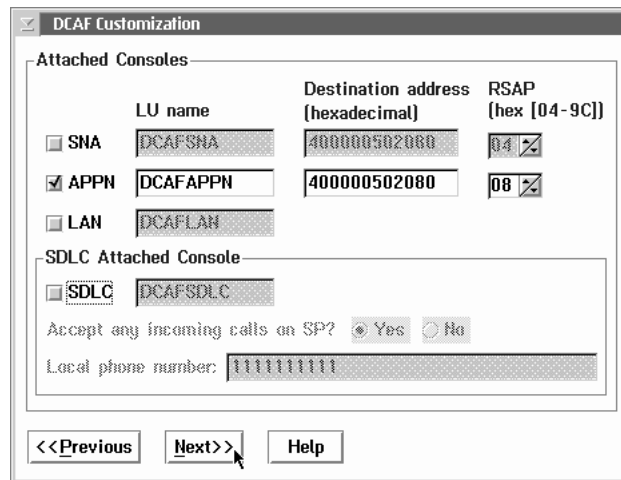

Figure 8-2. DCAF Customization
APPN LU name (Figure 8-2 on page 8-3)	LU name (Step 11 on page 8-7)
APPN Destination address (Figure 8-2 on page 8-3)	LAN Destination address (Step 11 on page 8-7)
RSAP (Figure 8-2 on page 8-3)	Remote SAP (Step 11 on page 8-7)
- Second part matches the **APPN LU name** in Figure 8-2 on page 8-3.